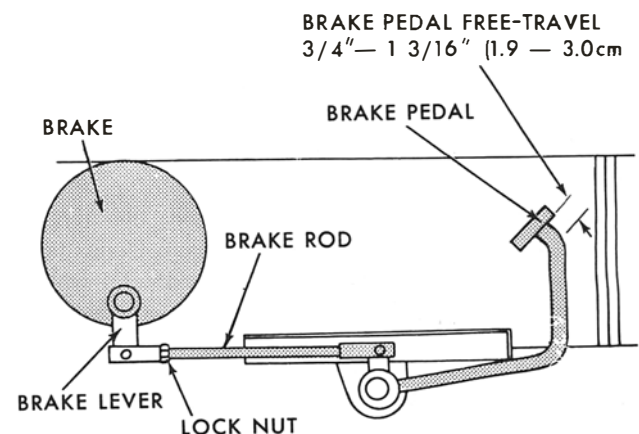

Figure 40
2. Loosen the lock-nut, Figure 40 and rotate the brake rod as necessary until there is 3/4 — 1-3/16 inches (1.9-3.0 cm) of pedal free play. Lengthening the rod increases free play while shorting the rod decreases free play.